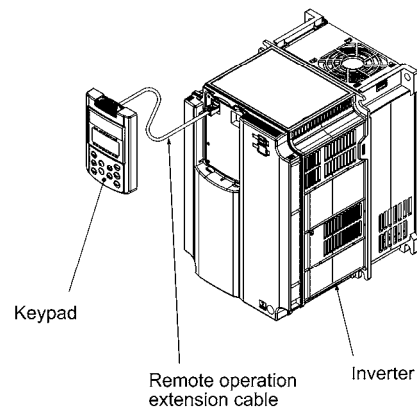

Figure 3.3-21 Using the Keypad Remotely in Your Hand
- Using it remotely in your hand (See Figure 3.3-21.)